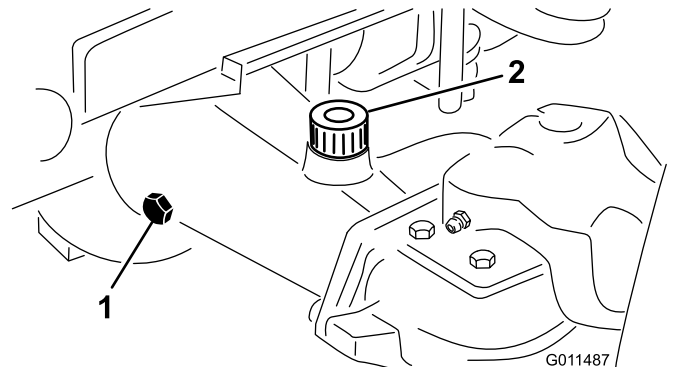

Figure 15
2. Remove a check plug from one end of the axle and ensure that the lubricant is up to the bottom of the hole (Figure 15).